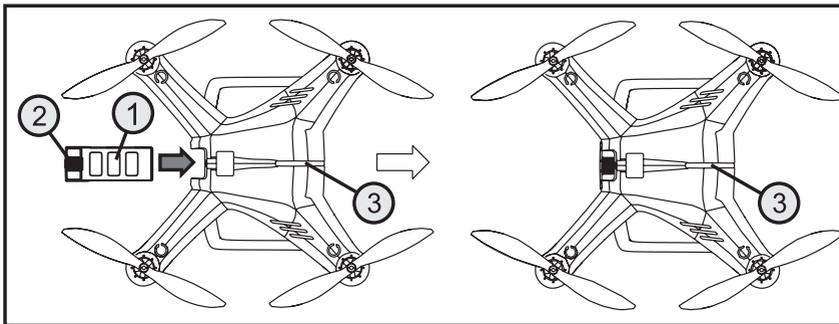

Figure 16
Now push the deactivated flight battery (see figure 16, item 1) into the quadcopter with the charge connection contacts first. Slightly push the grooved surface of the battery lock (see figure 16, item 2) so that the locking tab can latch and the flight battery is safely held in the quadcopter.
The status LEDs (see figure 16, item 3) light up yellow (red and green) and the quadcopter performs a self-test. After a brief time, the downward-pointing LEDs in the book arms will flash and the quadcopter will emit a brief signal.